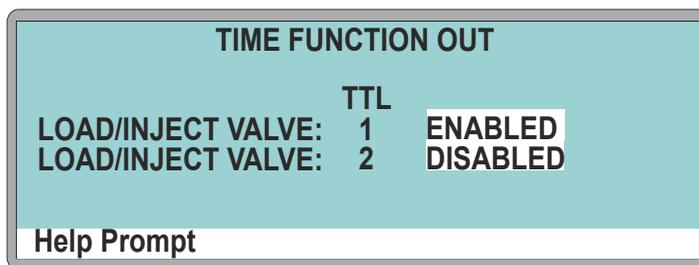

Figure B-62. AS50 Time Function Out Screen
1. On the AS50 front panel, press **Menu** and **0** to go to the **TIME FUNCTION OUT** screen (see Figure B-62). In the **LOAD/INJECT VALVE:** **TTL 1** field, select **ENABLED**.